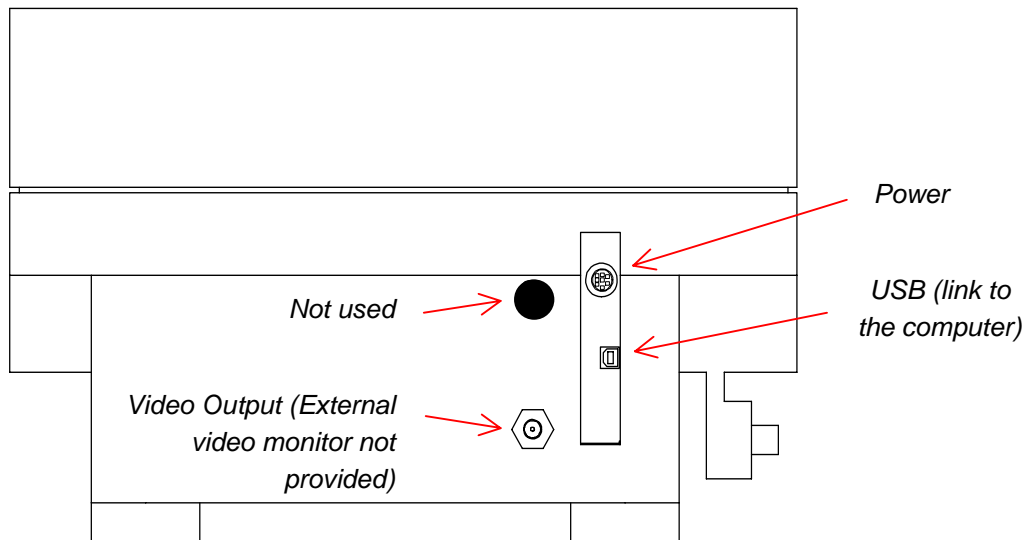

Figure 2.1 Rearview of the Alpha-Step IQ Scanner Showing Connections
- Interconnect the scanner, computer, keyboard, mouse, monitor, and printer (if any) See Figure 2.1.
Remove cables from the rear of the instrument (Fig. 2.1) and the rear of the computer. Pull each connector out carefully. Pull on the connector shells, not the cables.